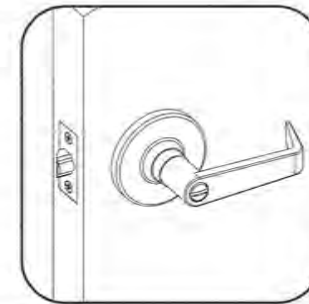
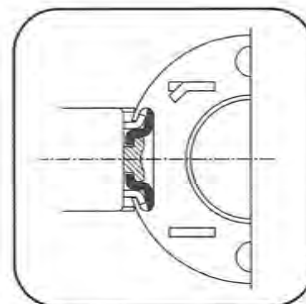

Figure 4
Figure 5
Step 2: Install Door Handle Hardware Set (Figure 4)
NOTE: Figure 4 reveals what the installation will resemble after completing the entire Step 2.
2.2: Install Lever into Door (**Fig. 4**). Ensure the lock housing engages with the Latch Prongs and retractor interlocks with the latch tail (**Fig. 5**)